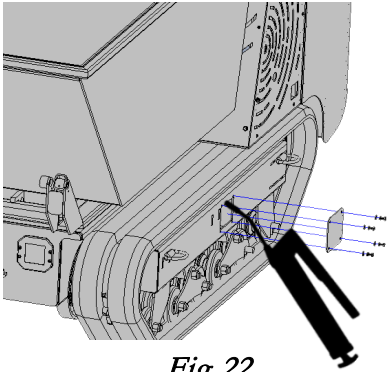

Fig 22
1. Remove the tensioner access plate on the side of the tracks. **(Fig 22)**